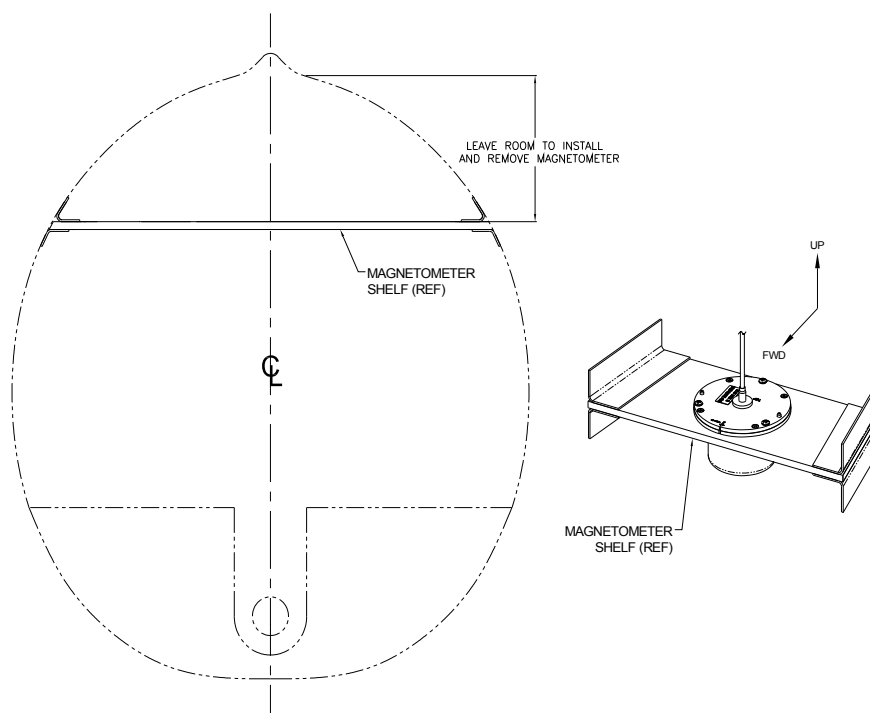

Figure A-20 View Looking AFT At Recommended Magnetometer Location
2. In determining a shelf location, ensure there is enough room above the shelf to install or remove the magnetometer, as well as provide clearance for the associated cable harness as shown in Figure A-20.